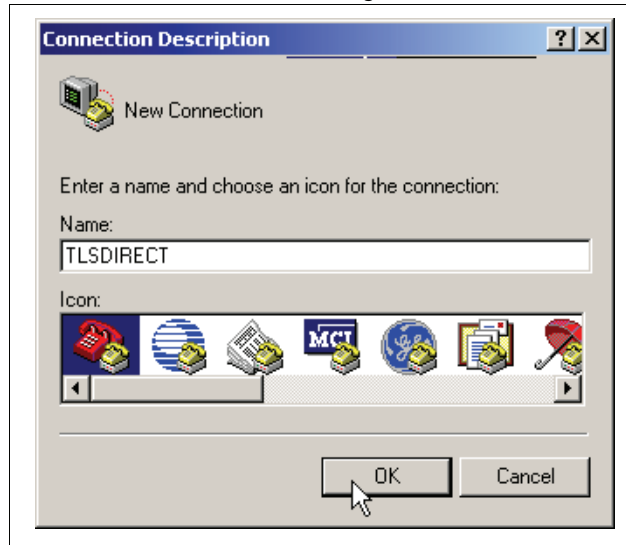

Figure 12. Connection Description window
2. After opening the terminal software program, ignore (cancel) any modem/dialing related request windows since you will be directly connecting to the console via serial communications. When the Connection Description window appears (Figure 12), enter a connection name, e.g., TSLSDIRECT, and click the OK button.